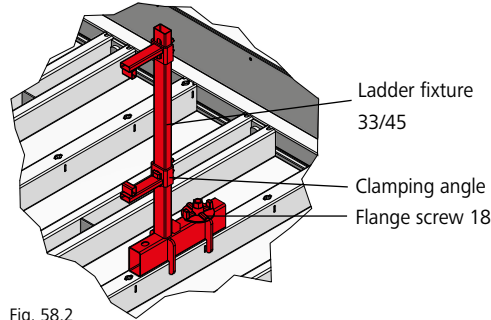

Fig. 58.2
2. Attach the ladder fixture with a flange screw 18 to the panel's multi-function profile (Fig. 58.2).